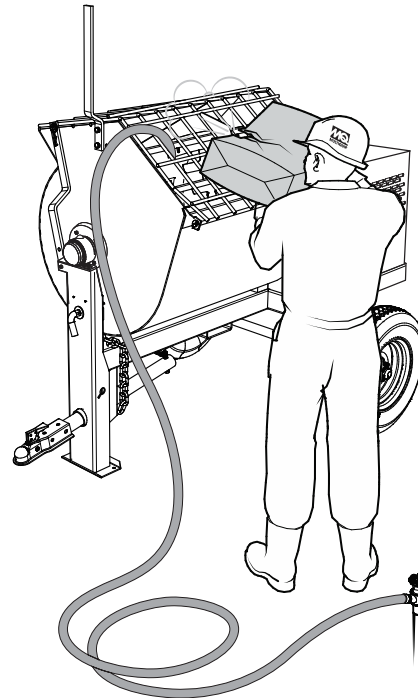

Figure 27. Fill Mixing Drum
4. The paddle shaft inside the drum should be rotating at this time. Add a small amount of water to the mixing drum (Figure 27).
5. Lift the mixing bag compound onto the steel safety grate over the **bag cutter** and let the contents fall into the drum (Figure 27). Add more water if desired and mix the compound to the desired consistency.